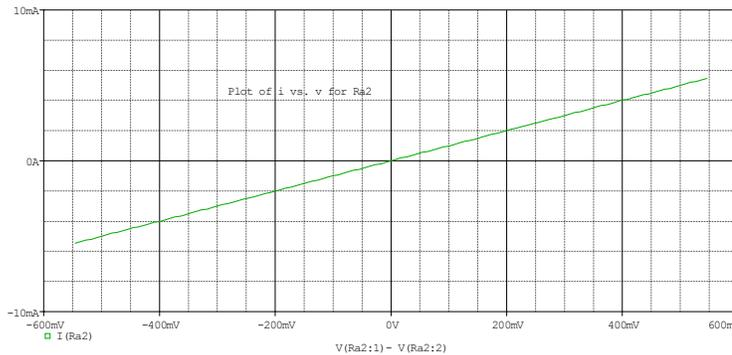

Figure A-5.
- The plot produced will show the i-v characteristic curve for resistor Ra2. Your PROBE plot should look something like Figure A-5: